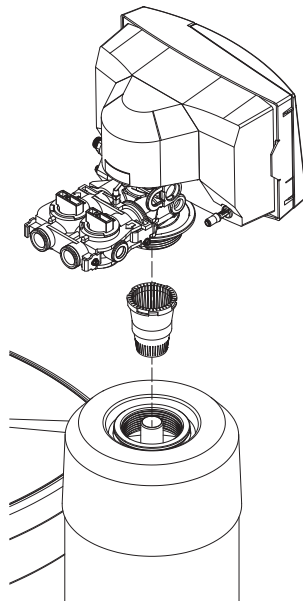

Figure 1
- Align the control valve with the tank. Push down on the control valve and continue to turn it clockwise until the valve O-ring seals against the tank (see figure 1).